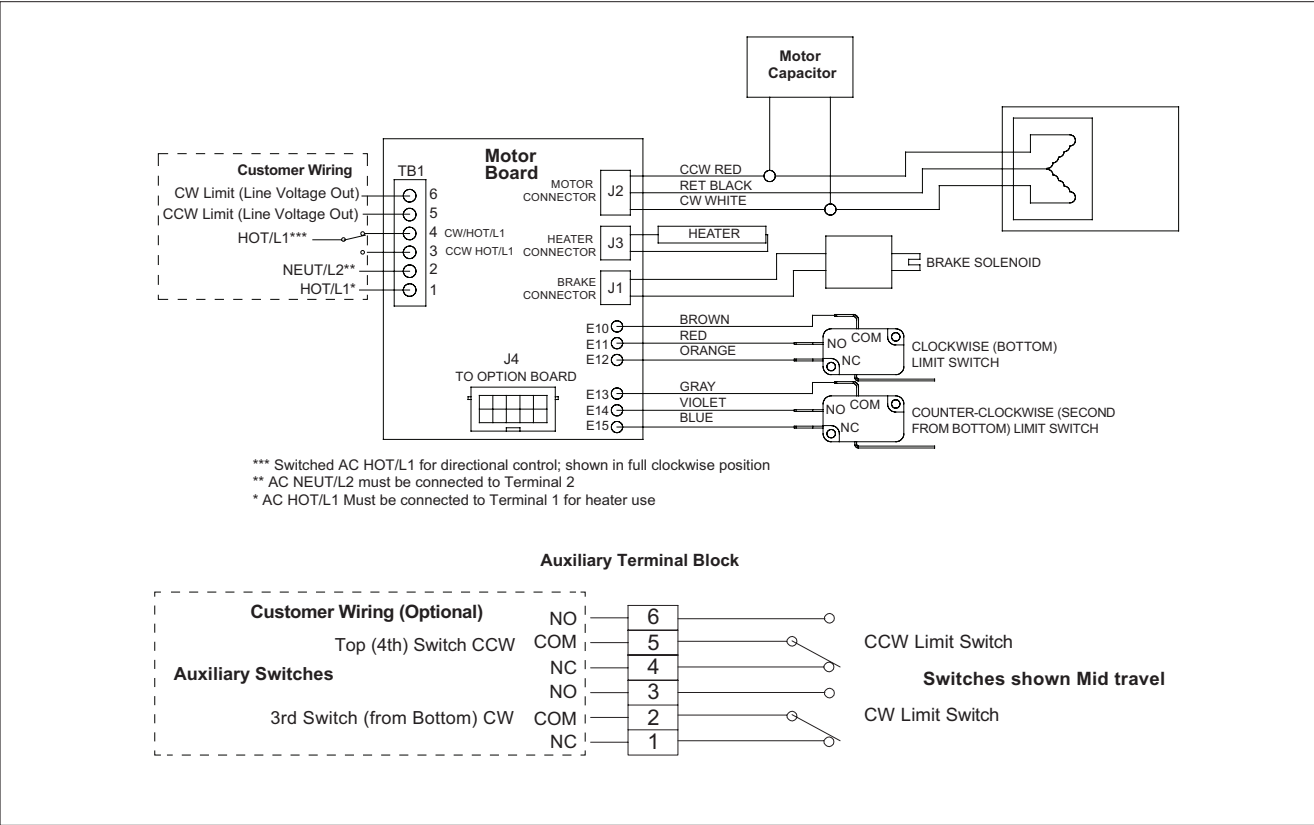

Figure 2.
3. Apply power to terminals 2 and 3 for **[CCW]**, 2 and 4 for **[CW]** (**see Figure 2**) or use the manual override.